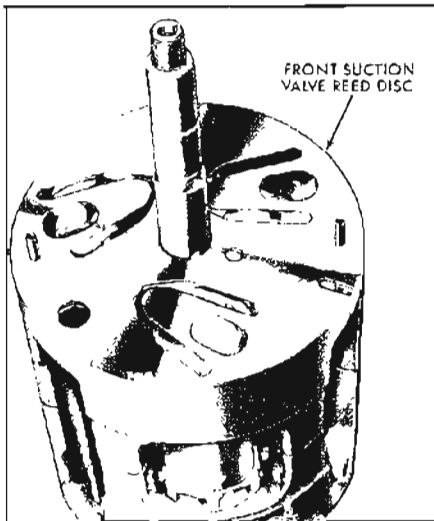

Figure 11-147—Front Suction Valve Reed Disc Installed
2. Assemble front suction valve reed disc to front end of cylinder. Align dowel pin holes, suction ports and oil return slot. See Figure 11-147.